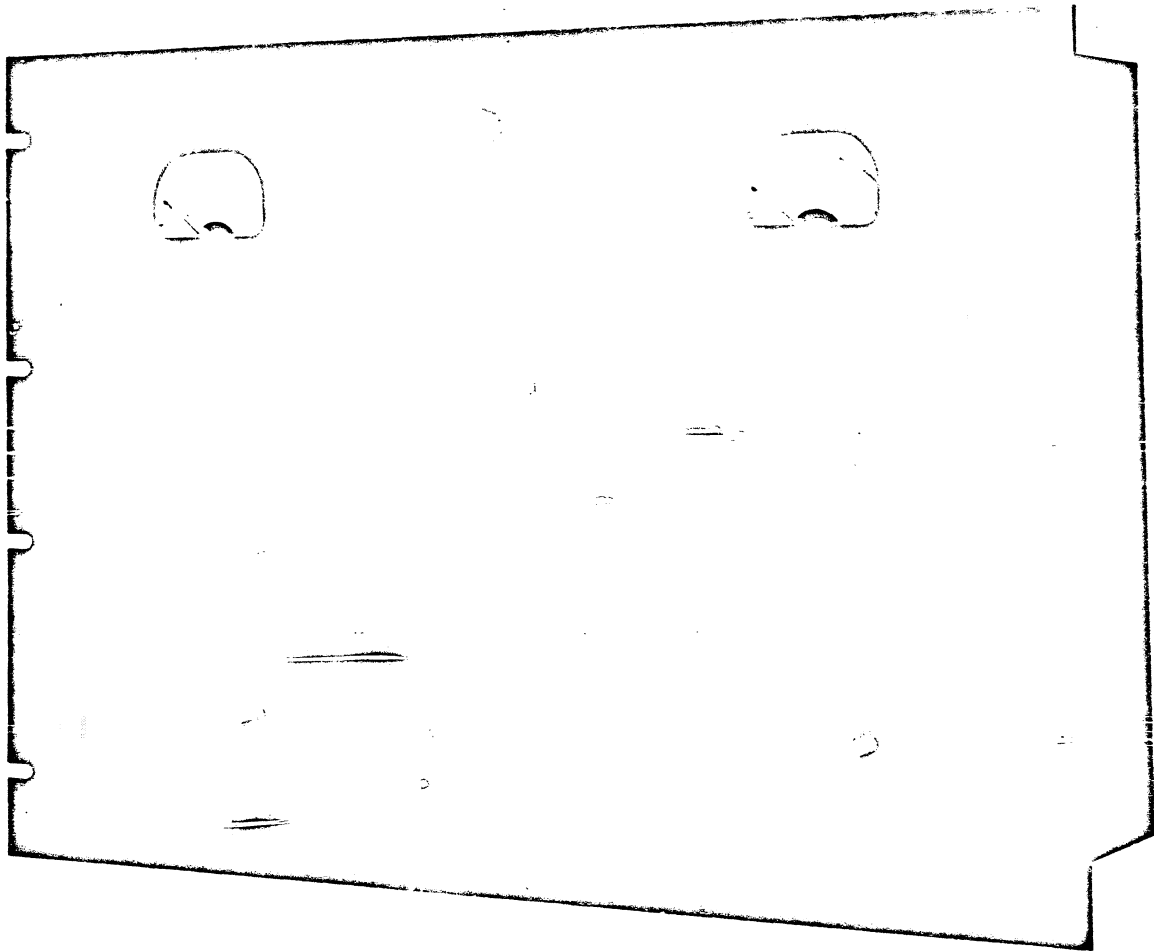

Figure 1-1. Type 26 W Limiting Amplifier
a. This instruction book is to be used as a guide to the installation, adjustment, operation and maintenance of the Collins Type 26W Peak Limiting Amplifier. Refer to Figure 1-1.